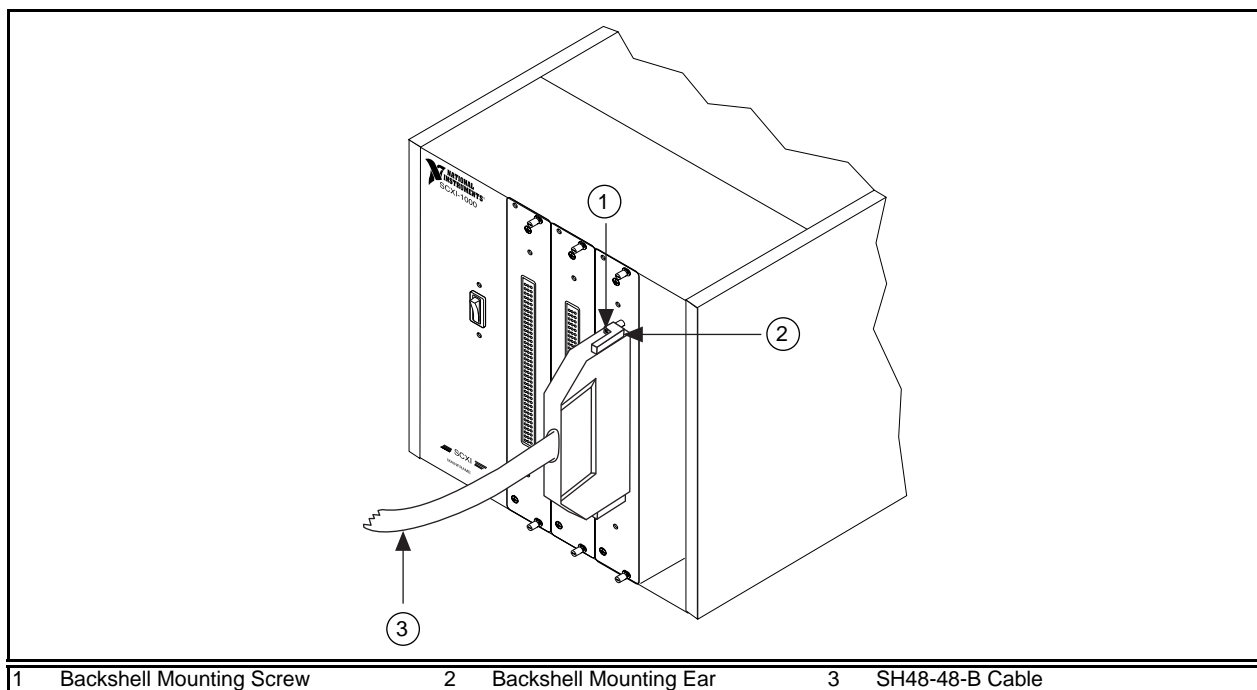

Figure 3. Connecting the SH48-48-B Cable to the SCXI Module
11. Verify that the four backshell mounting ears are in the position shown in Figure 3. If not, remove the backshell mounting ears and install them in the position shown.